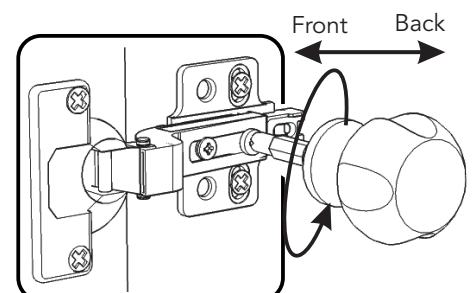

Figure 18
If needed, adjust Doors (P) and (Q) front to back. (See Figure 18)